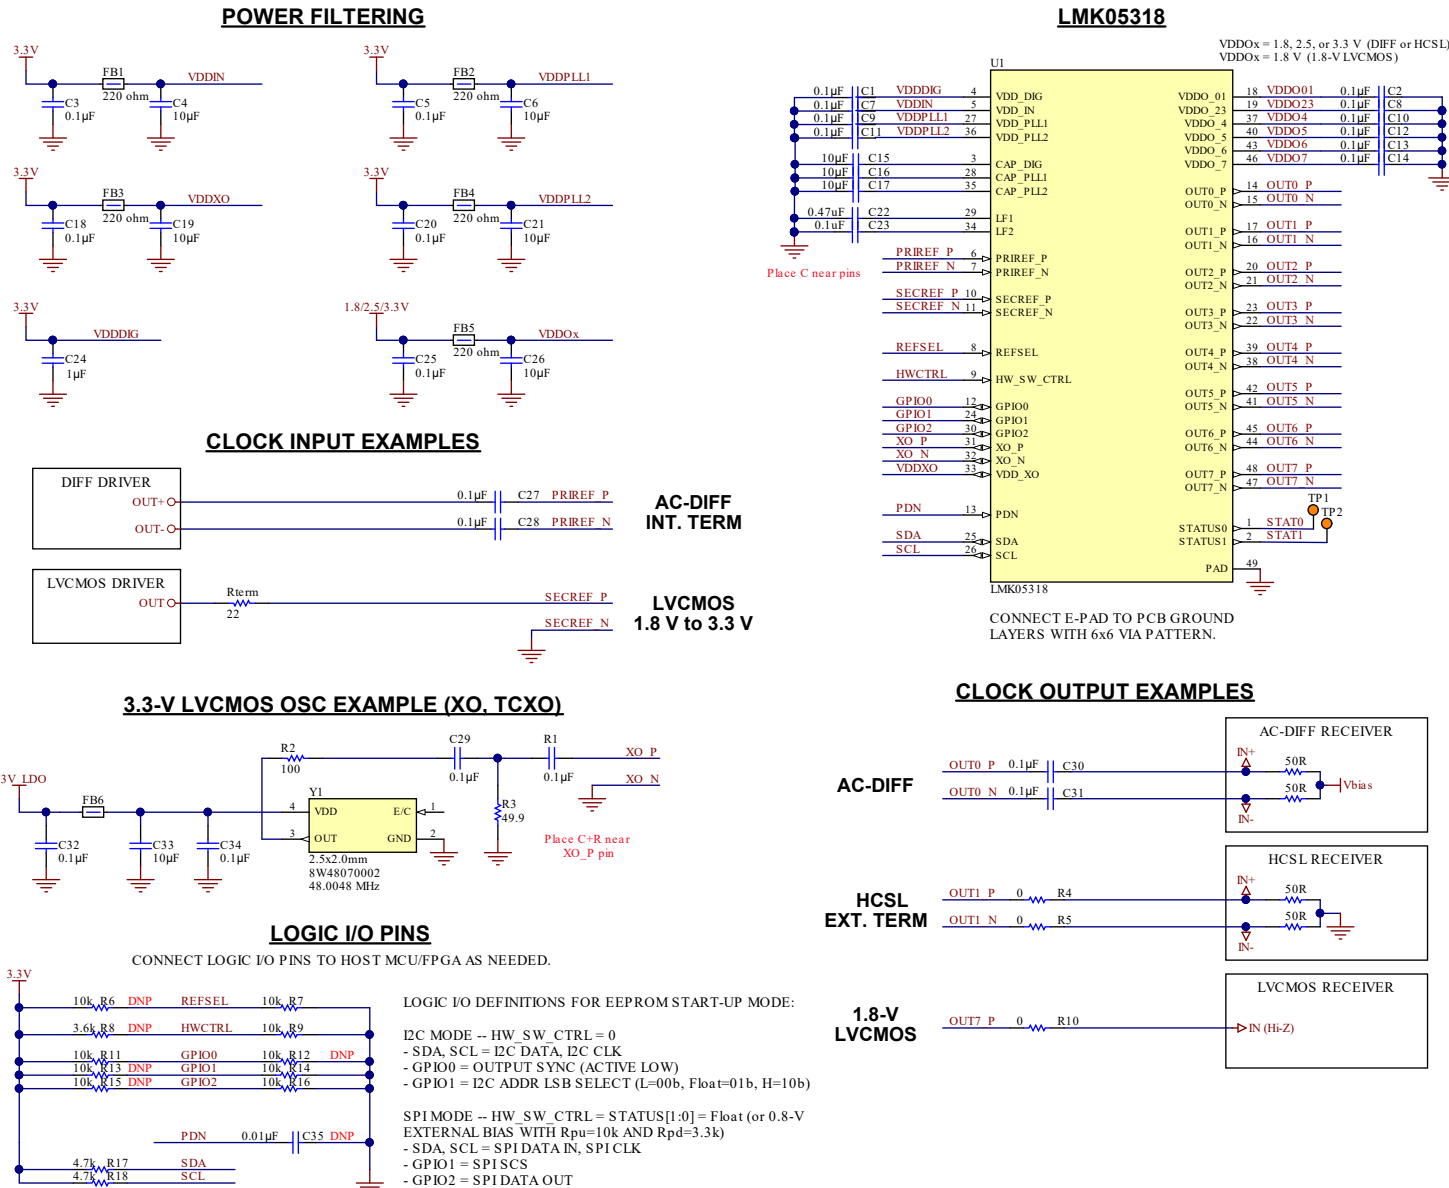

Figure 10-4. LMK5B12204 Reference Schematic Example
Figure 10-4 shows a reference schematic to help implement the LMK5B12204 and its peripheral circuitry. Power filtering examples are given for the core supply pins and independent output supply pins. Single-ended LVCMOS, AC-coupled differential, and HCSL clock interfacing examples are shown for the clock input and output pins. An external LVCMOS oscillator drives an AC-coupled voltage divider network as an example to interface the 3.3-V LVCMOS output to meet the input voltage swing specified for the XO input. The required external capacitors are placed close to the LMK5B12204 and are shown with the suggested values. External pullup and pulldown resistor options at the logic I/O pins set the default input states. The I²C or SPI pins and other logic I/O pins can be connected to a host device (not shown) to program and control the LMK5B12204 and monitor its status. This example assumes the device will start up from EEPROM mode with an I²C interface (HW_SW_CTRL = 0).
- For a 3.3-V LVCMOS driver, follow the OSC clock interface example in Figure 10-4. Power the OSC from a low-noise LDO regulator or optimize its power filtering to avoid supply noise-induced jitter on the XO clock.
- Reference inputs: Follow the LVCMOS or differential clock input interface examples in Figure 10-4 or in Section 9.3.3.
- Clock output Interfacing: Follow the single-ended or differential clock output interface examples in Figure 10-4 or in Section 9.3.14.
- Power all the VDD pins with proper supply decoupling and bypassing connect as shown in Figure 10-4.